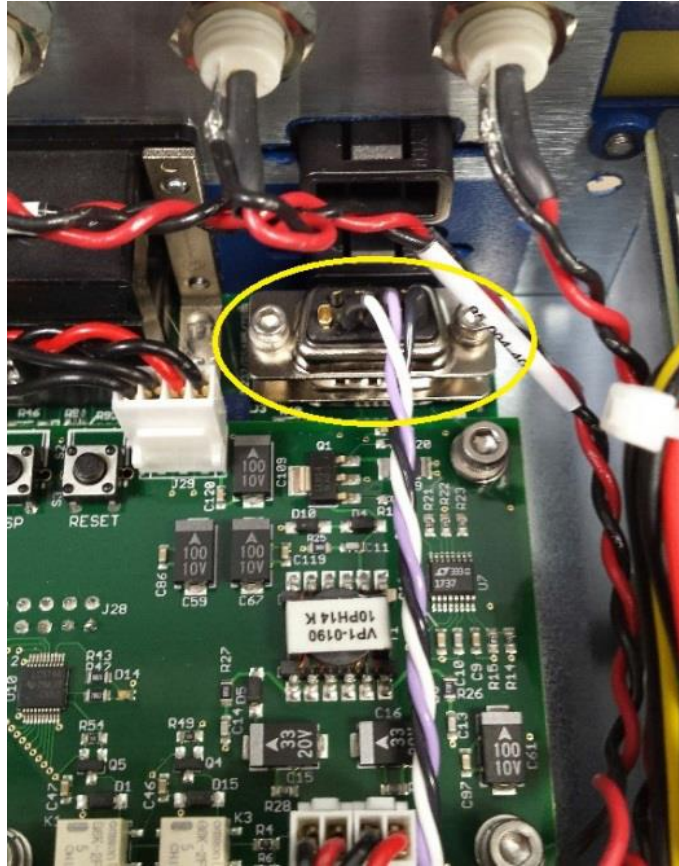

Figure 1
4. Locate the System Controller and verify that the communication cable (purple/black/white) is connected. See **Figure 1** for details.